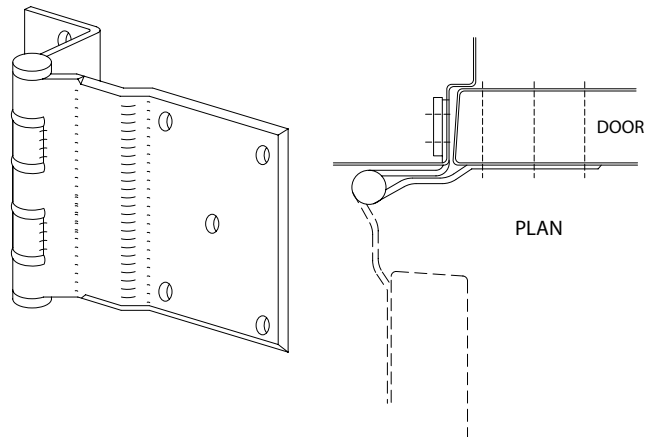

FIGURE 7c
3. The Half Surface Hospital Hinge, Figure 7c, has one leaf surface-mounted on the door face and one leaf mortised into the frame rabbet.